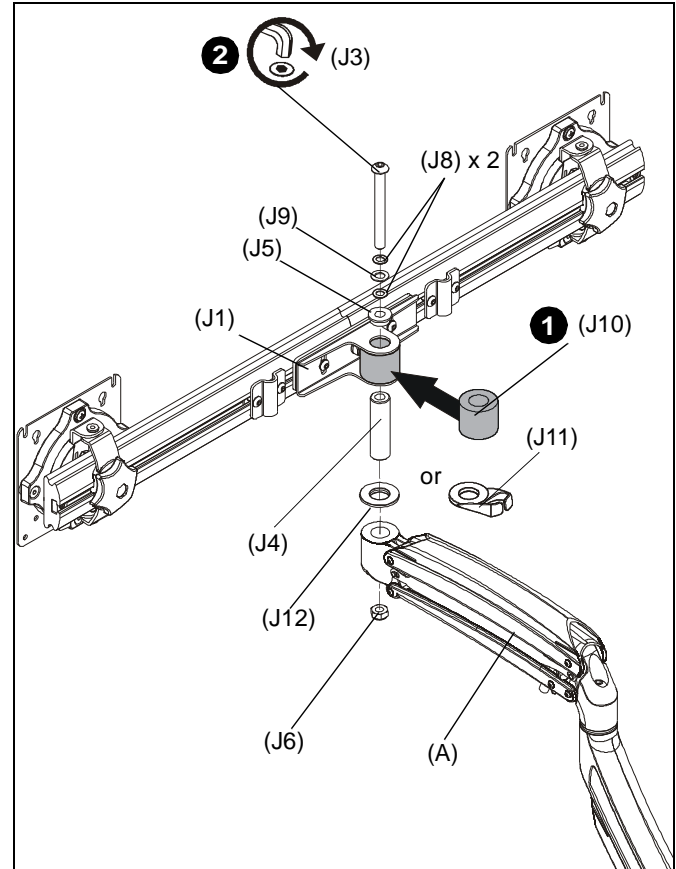

Figure 2
1. Slide rotational spacer (J10) into opening on array attachment bracket. (See Figure 2)
2. Use 5/16-18 x 3" button head cap screw (J3), two thin steel washers (J8), plastic spacer (J9), pocket washer (J5), pivot pin (J4), pivot point spacer (J12) and 5/16-18 lock nut (J6) to secure array (J1) to K1 arm (A). (See Figure 2)
NOTE: Cable clip (J11) can be used in place of pivot point spacer (J12) if additional cable management is desired. (See Figure 2)